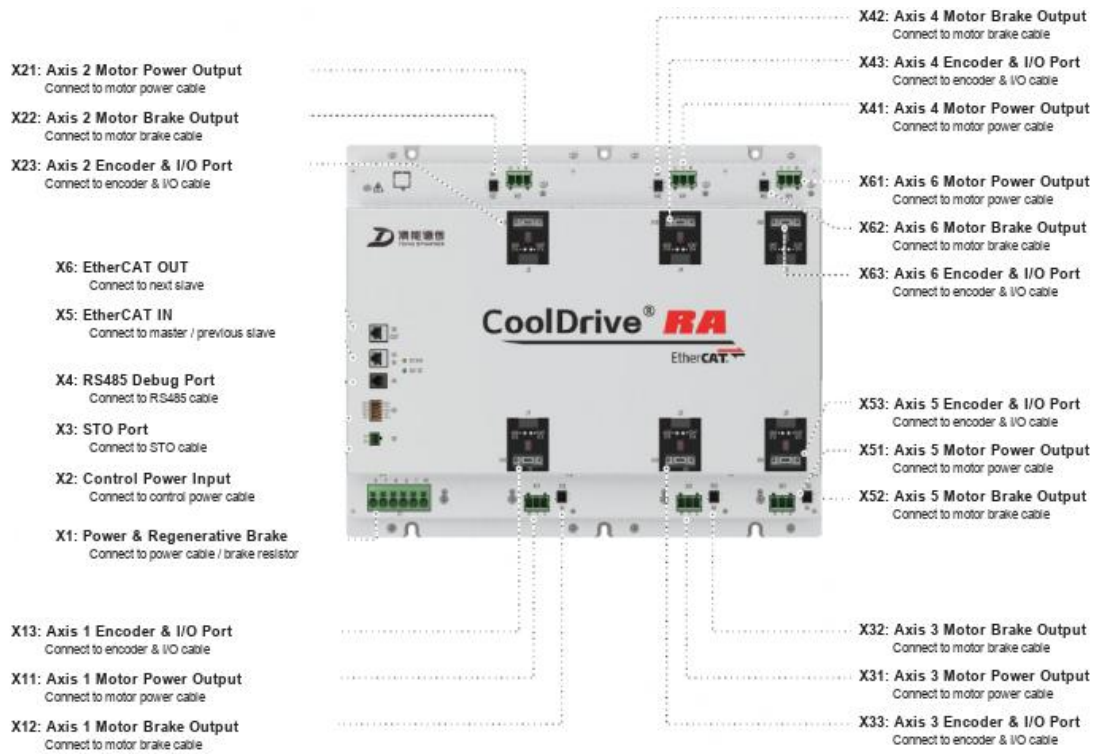

Figure 5-4: Driver Interface
- Step 1. To remove the brake connector from the shaft whose brake needs to be released (refer to Figure 5-4), use a flat-head screwdriver to pull the brake cable out of the connector; (only one shafts brake should be released at a time).